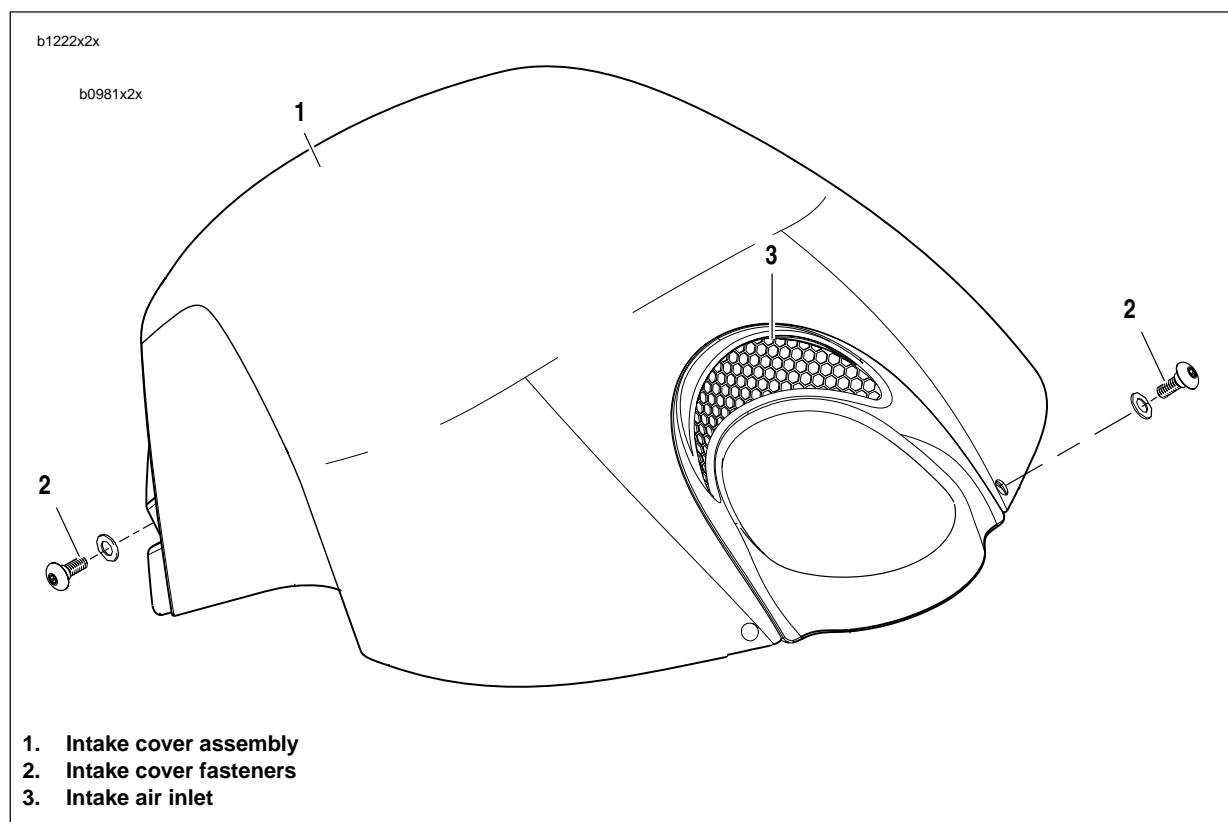

Figure 2-125. Intake Cover Assembly
2. See Figure 2-125. Remove fasteners and nylon washers (2).
3. Remove intake cover assembly (1).
2. See Figure 2-125. Start the front two fasteners (2) with nylon washers.
3. See Figure 2-125. Secure intake cover assembly (1) with fasteners and nylon washers (2). Tighten to 12-36 in-lbs (1.3-4 Nm).